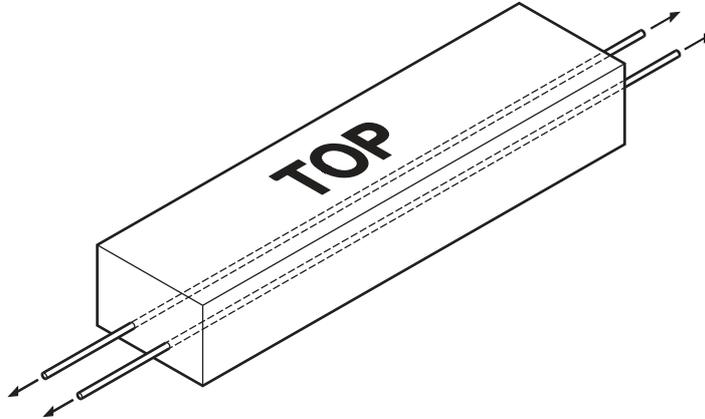

Fig. 10.1
- 10 Fig. 10.1 shows a concrete beam with two reinforcing rods running through it.
(iv) Fig. 10.1 shows the marking on the top face of the beam. Explain the reason for the marking.